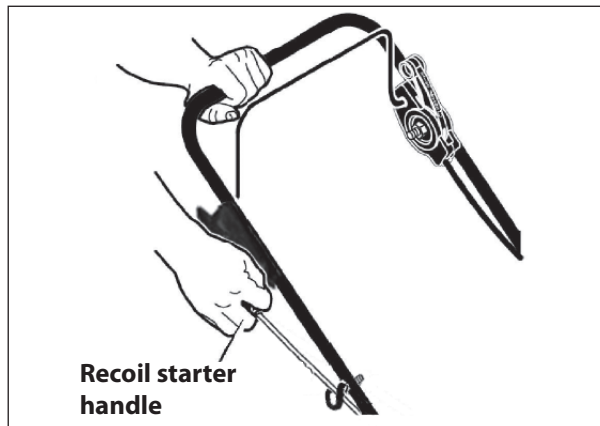

Figure 8: Using the recoil starter handle to start the engine.
4. Firmly hold the recoil starter handle with your right hand. **SEE FIGURE 8.**